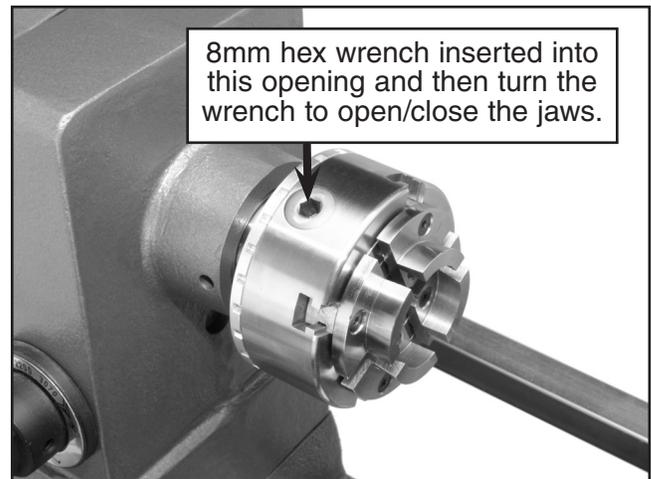

Figure 2. Chuck Operation.
1. With the chuck mounted on the lathe, open/close the chuck jaws so that the workpiece can be placed between the jaws (**Figure 2**).